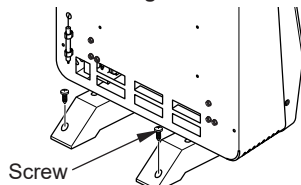

Figure 12 - Securing Heater to Floor
3. Position the heater to the desired location. Secure the base feet to the floor by using two Phillips head screws (provided) (see Figure 12).